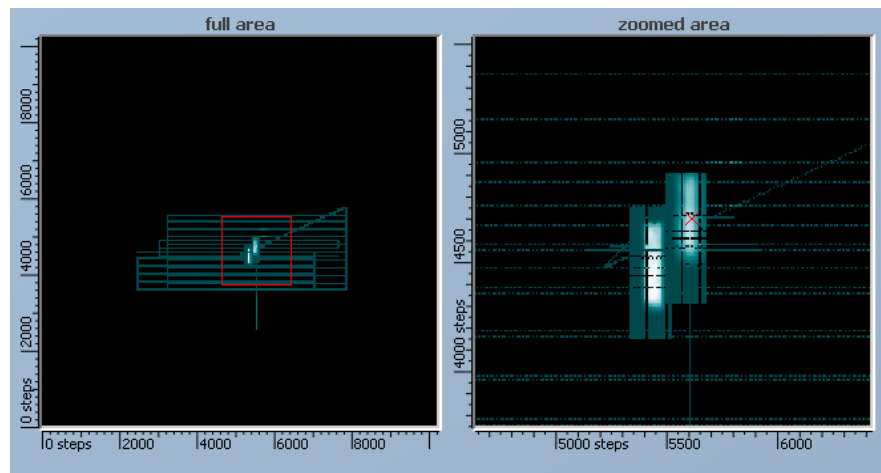

Figure 8.4.3 Images of the cantilever obtained using the show tip command in the process of the laser focus adjustment.
- Use the show tip command to obtain an image of your cantilever's lever to check the laser focus adjustment (Fig. 8.4.3);
- Check the laser focus again: use the look around command to align the laser to the cantilever and then use the show tip command to obtain a new image of the cantilever next to the previous one (Fig. 8.4.3);